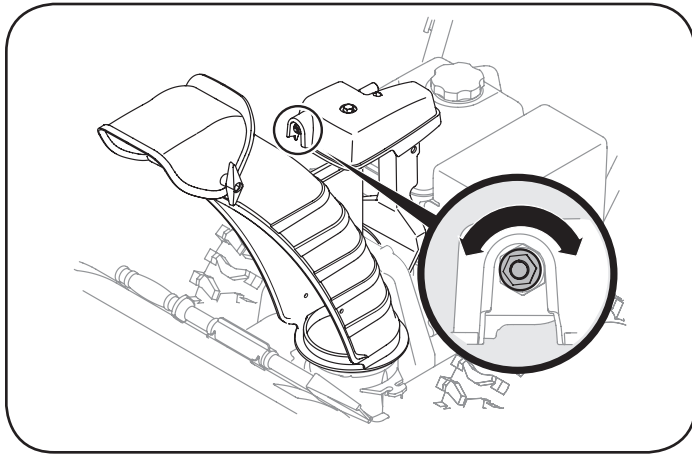

Figure 66
1. To increase the preload, tighten the hex nut clockwise in $\frac{1}{4}$ turn intervals. See Figure 66.